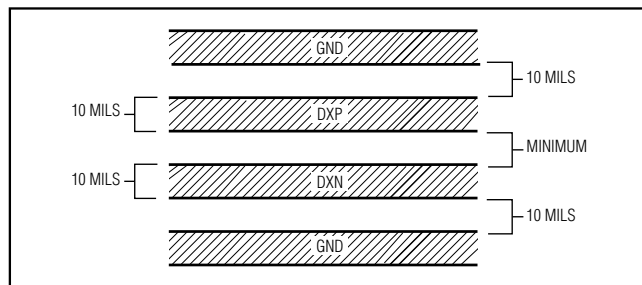

Figure 4. Recommended DXP-DXN PC Traces
- 3) Route the DXP and DXN traces in parallel and in close proximity to each other, away from any higher voltage traces, such as 12VDC. Leakage currents from PC board contamination must be dealt with carefully since a 20M $\Omega$  leakage path from DXP to ground causes about 1°C error. If high-voltage traces are unavoidable, connect guard traces to GND on either side of the DXP-DXN traces (Figure 4).
6) Use wide traces. Narrow traces are more inductive and tend to pick up radiated noise. The 10mil widths and spacing recommended in Figure 4 are not absolutely necessary, as they offer only a minor improvement in leakage and noise over narrow traces. Use wider traces when practical.